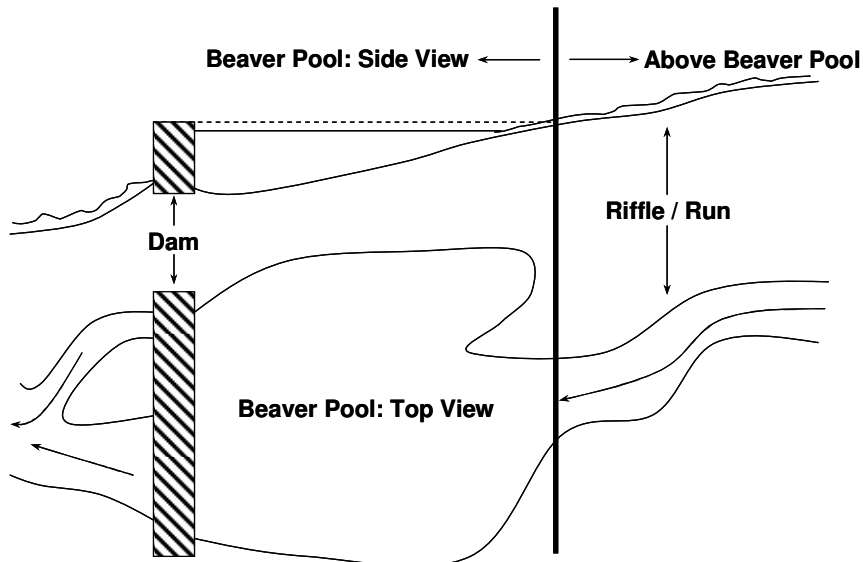

Figure 48. Top and side views of a beaver pool and how to distinguish the upstream boundary.
- Determine the upstream boundary of beaver pools using the following criteria above Figure 48